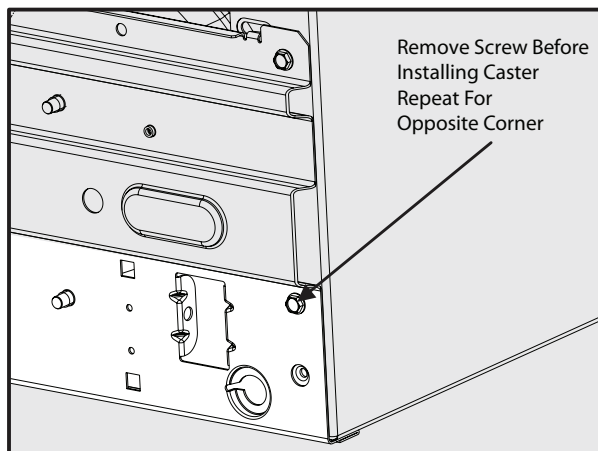

Figure 4
1. Remove and discard the screws shown in Figure 4 from each bottom corner using a 5/16" socket wrench.